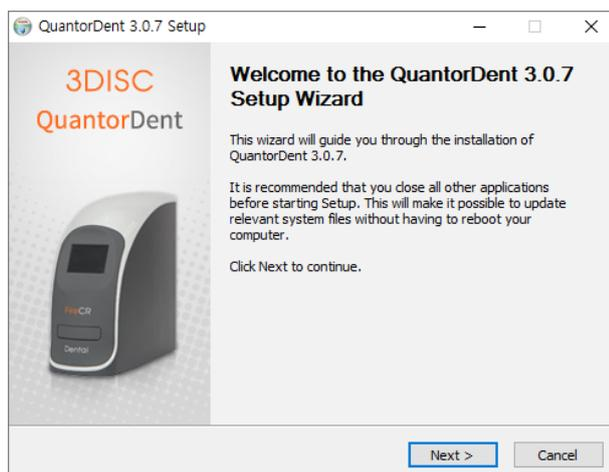

Figure 2.1 Welcome Dialog Box
5. Click the "Next" button as shown in Figure 2.1.